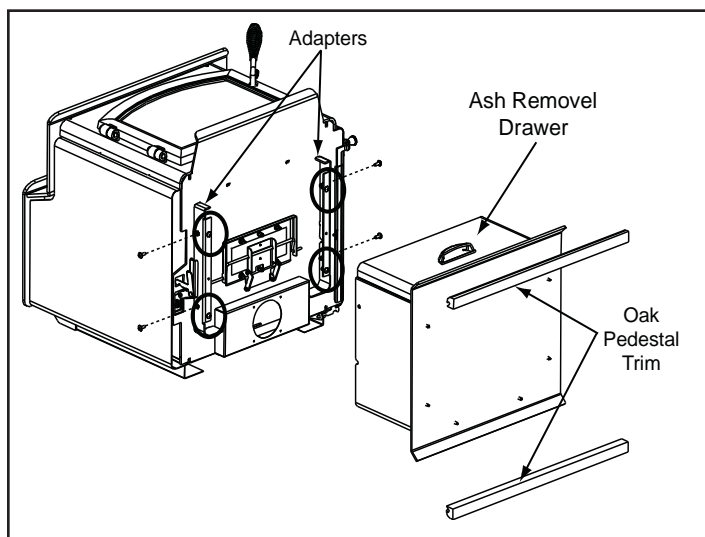

Figure 23.1
1. Remove screws on adapter and slide pedestal over adapter on bottom of stove. **Figure 23.1.**